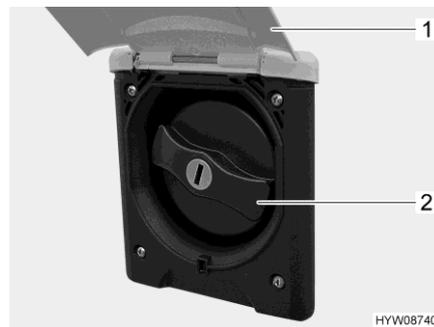

Fig. 149 Cap (drinking water filler neck)
- Swivel the external flap (Fig. 149,1) upwards.
- Turn the blue cap (Fig. 149,2) one quarter turn.